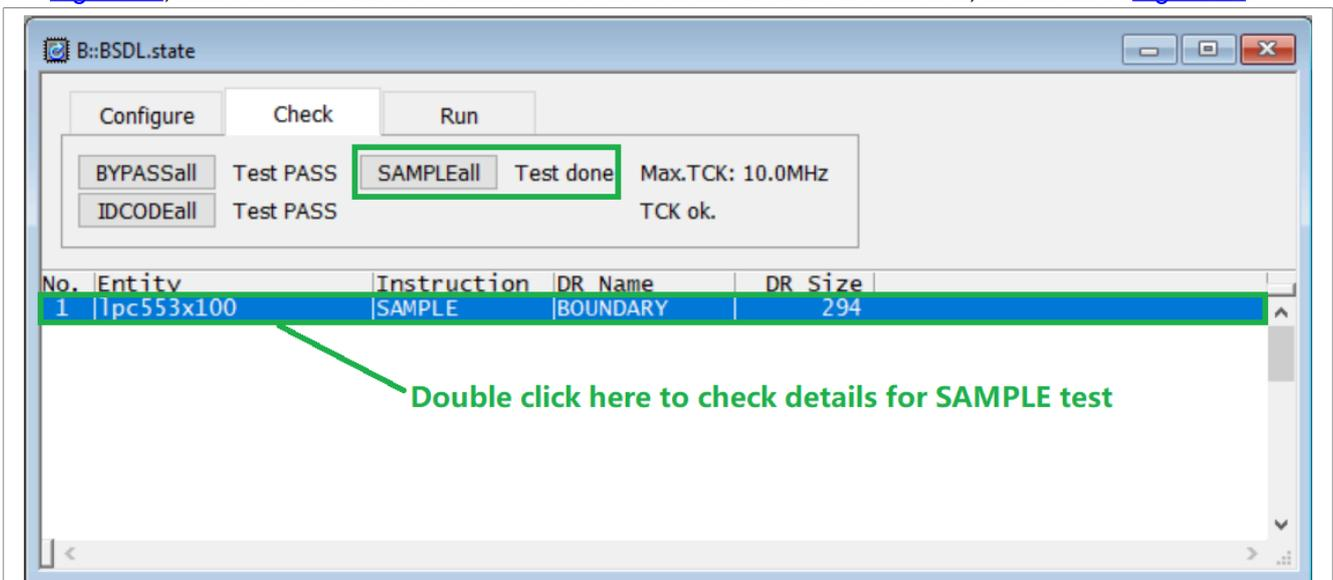
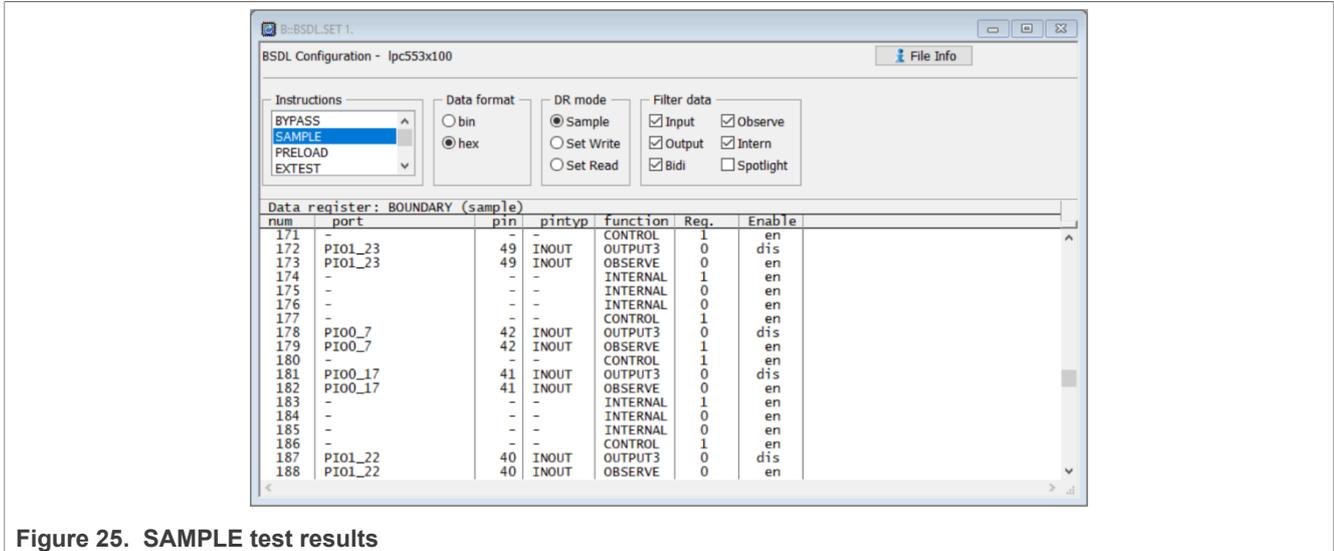

Figure 24. Checking SAMPLE
Figure 25. SAMPLE test results
- 8. Click the **SAMPLEall** button, and **No result** becomes **Test done**. Double-click the entity name, as shown in Figure 24, and the SAMPLE test result can be seen in the **BSDL.SET** window, as shown in Figure 25.